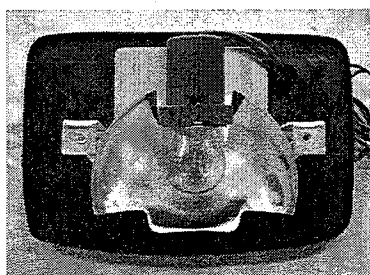

Figure 2
- Remove the lens from the taillight assembly and all the hardware that secures the reflector assembly to the rubber backing pad. Refer to Figure 2 for more details.